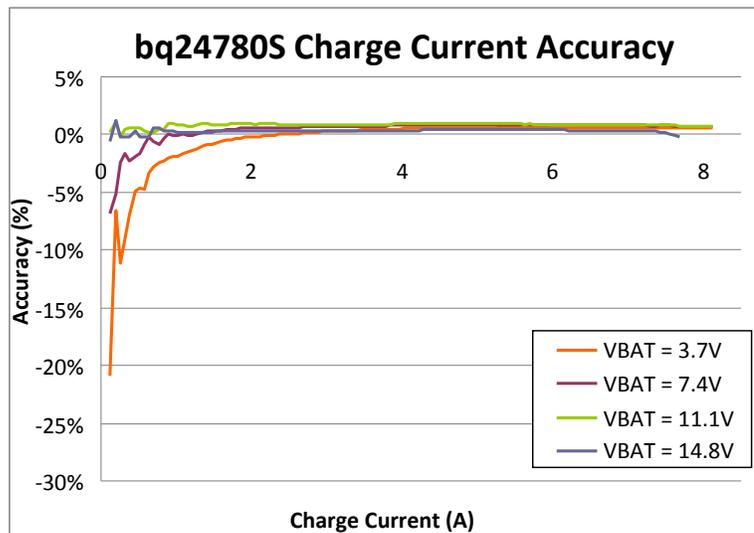

Figure 5. TIDA-00657 Charge Current Accuracy
- Figure 5 shows the bq24780S charge current accuracy at 25°C.